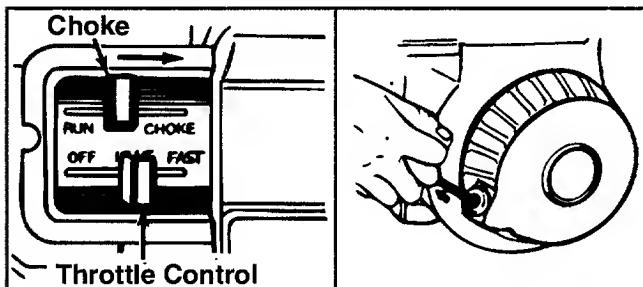

FIGURE 5.
The throttle control is located on the right side of the engine. It controls the engine speed and stops the engine. See figure 5.
Used to manually start the engine. See figure 5.
- Place the throttle control lever in FAST position. See figure 5.
1. Move throttle control lever to OFF position. See figure 5.